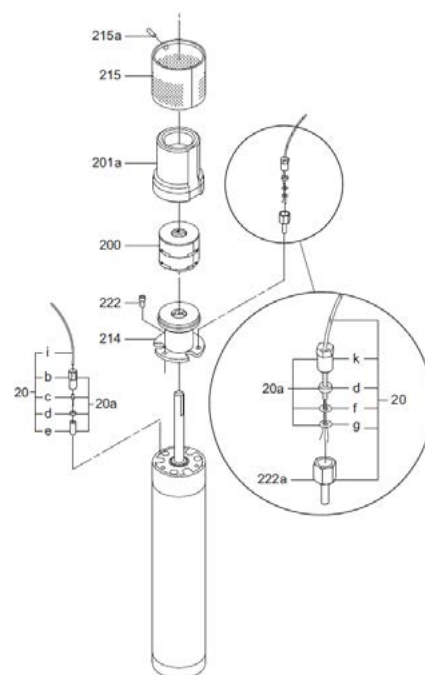

Fig. 1 MP 1/Redi-Flo2 pump components
- Slacken and remove the screw, pos. 215a, together with the strainer, pos. 215. See fig. 1.
- Screw the pump housing, pos. 201a, (right-hand thread) off the suction interconnector, pos. 214. Pull the pump housing and the impeller assembly, pos. 200, off the motor shaft.
- Slacken the screw, pos. 20k, for the earth lead and pull it off the screw, pos. 222a, together with the earth lead and the washers, pos. 20d and 20f.
- Slacken and remove the screws, pos. 222 and 222a
- Pull the suction interconnector, pos. 214, off the motor.
- Slacken and remove the screws, pos. 20b, holding the motor cable.
- Pull positions 20b, 20d and 20e on the three leads (phases) of the motor cable. On the earth lead (yellow/green), the order is pos. 20k, 20d and 20f. See fig. 1.
- Bend the stripped end of the earth lead. See fig. 1.